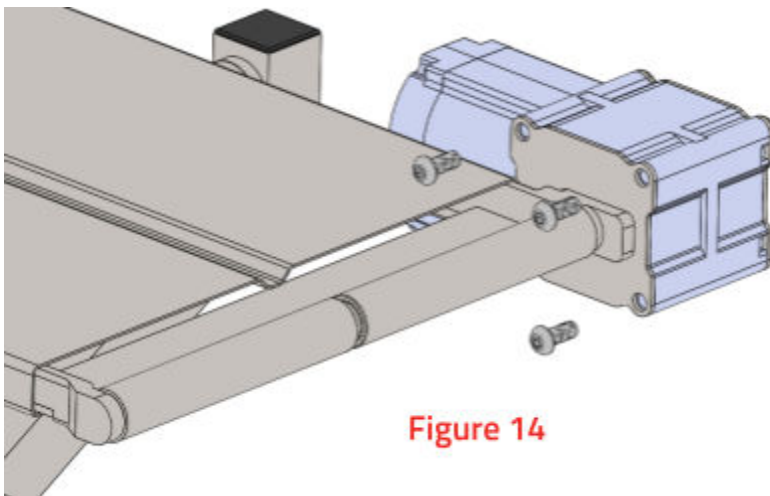

Figure 14
2. Remove the 4 bolts securing the motor to the conveyor using a 6mm hex key, then slide the entire motor off the drive shaft and set aside. Take care to also set aside the key with the motor. The key should be easily removable from the keyway on the shaft. (See Figure 14)